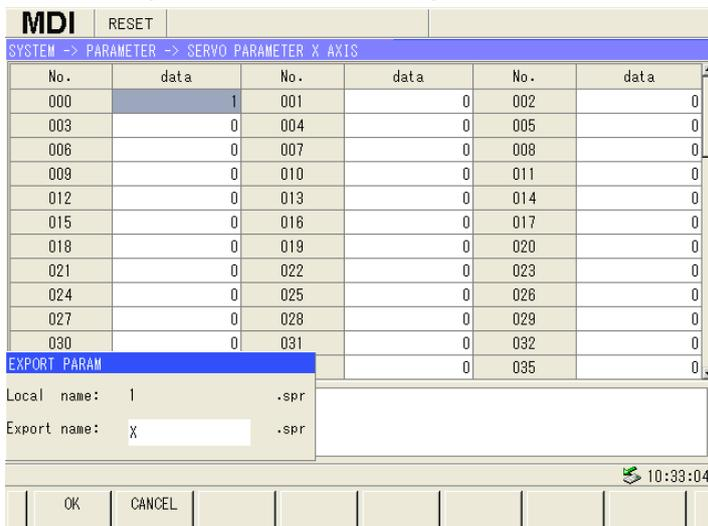

Fig. 9-5
3. As the above figure, select X-axis servo parameter, press **V**, then **EXPORT PARAM**. As the following Fig. 9-5, because the previous selection is X-axis, the exported file name is changed into X, **OK** is pressed, i.e., X-axis parameter file is backed up to the U disk.